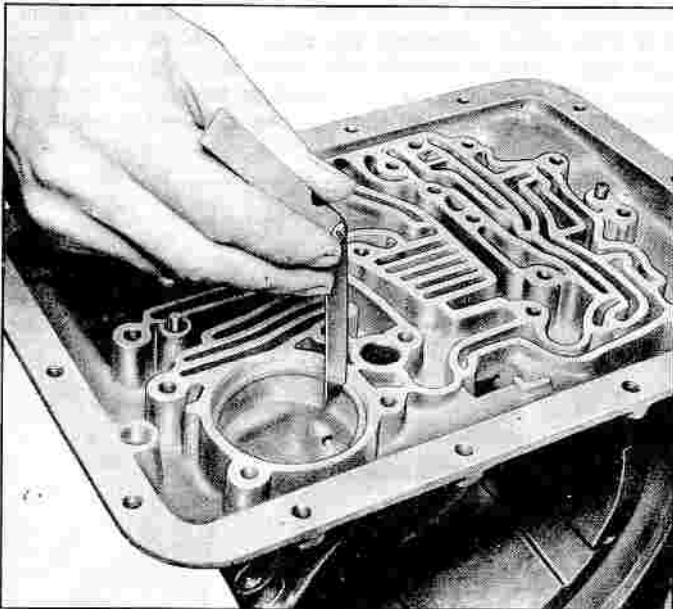

Fig. 7E-12—Measuring Low Servo Piston Ring Gap
To disassemble the low servo piston, remove the hairpin retainer securing the piston to the piston rod and separate all components. The cushion spring tension on this piston is relatively slight; no press is required. Remove piston ring from the piston and install it in the low servo bore as illustrated in Figure 7E-12, then measure the ring gap. If within limits ring gap will be .002"-.012".
Assemble ring to piston, then measure clearance between ring and one wall of the piston groove (fig. 7E-13). Clearance should be .0005"-.005".
1. Install low servo piston and return spring (fig. 7E-14) in bore in transmission and engage notch in piston shaft with low band apply strut, loosening low band screw slightly to permit piston ring to seat in case bore.